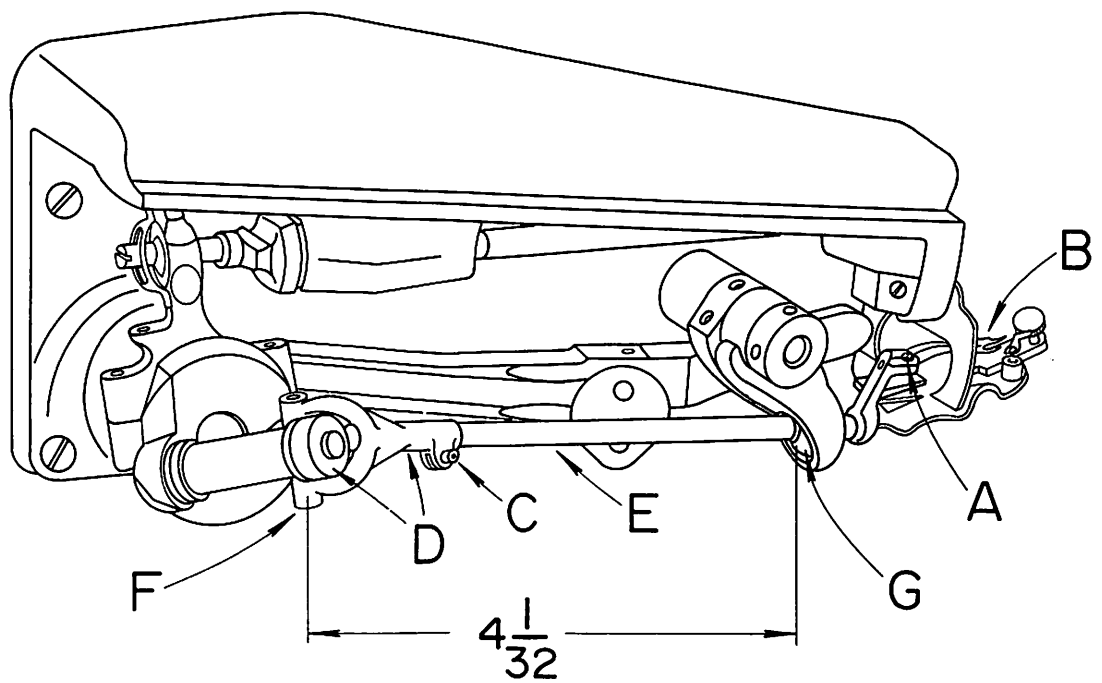

FIGURE 6
1. Should it become necessary to replace the looper (Item "B" in Fig. 6) do the following: with the looper at the left of the foot, turn the handwheel clockwise until the point of the needle is in the middle of the foot opening.
Loosen the looper clamp screw (Item A, Fig. 6) and pull the looper out approximately 1/8 of an inch. Turn looper clockwise upside down and pull out. To replace the looper, reverse the above procedure.